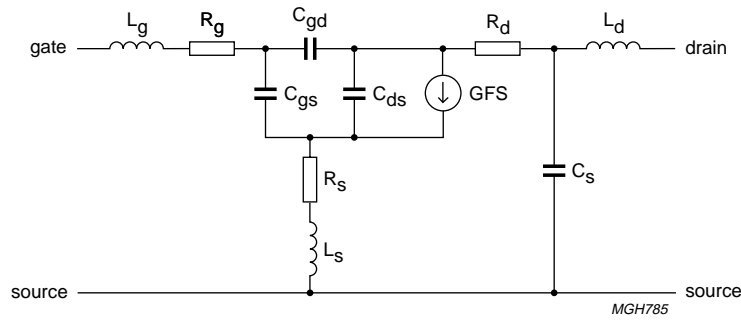

Fig.2 RF Power MOSFET equivalent diagram (one BLF548 section).
1. Determine the BLF548's 150 W output power load impedance between 100 and 500 MHz (50 MHz interval steps) by measurement techniques or simulations. At the moment of writing it was not possible to perform full automatic measurements at frequencies lower than 500 MHz with transistors build in a balanced SOT262 header. Therefore the load impedances have been calculated by means of the electrical equivalent diagram shown in Fig.2.
6. Choose the right input matching network which has a minimum return loss (RI) at the highest frequency (450 MHz) and a declining RI for lower frequencies in a way that the gain increase effect for lower frequencies is equalized. Other possibilities, as feedback or frequency dependent damping at the gate side (by means of low R_g s), can be taken into consideration.
At the following pages the design steps are presented which were followed at PHILIPS' laboratories in order to design a 150 W unit. Using the diagram shown in Fig.2, powergain and impedances have been calculated first, using the data given in Table 2.